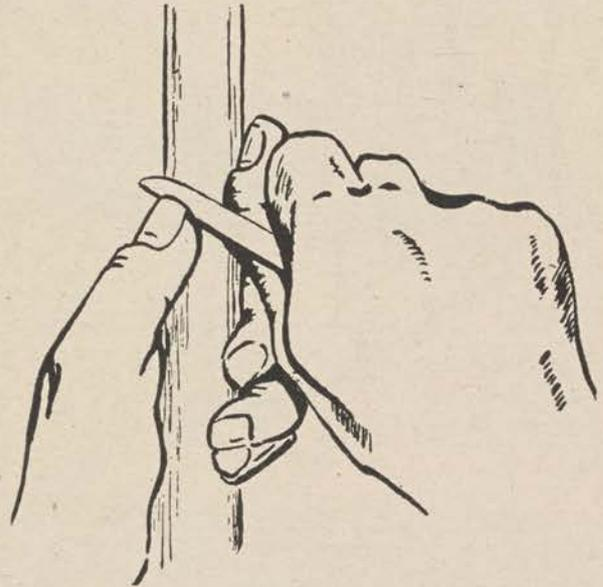
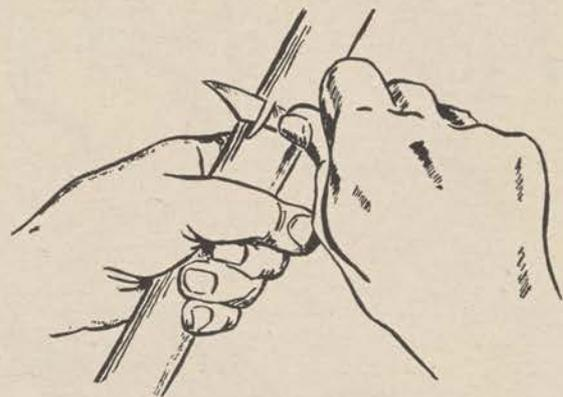

Figure 48.
Figure 49.
*a.* All whittling is done with a few standard knife cuts. The commonest is the full hand grip (fig. 48). It removes waste wood quickly, but is hard to control. Extending the thumb along the back of the blade gives less power, but better guidance (fig. 49). The knife may also be drawn toward you with a full hand grip or with the thumb braced on the work (fig. 50). For deep, straight cuts, reverse the full hand grip (fig. 51). In outlining or making stop cuts, the blade is guided by the forefinger (fig. 52).